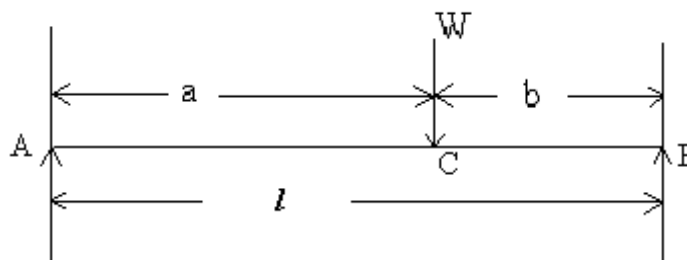

Figure 8
3. Find the central deflection of a simply supported beam shown in figure 8 by unit load method and loaded at a point distant 'a' from A and 'b' from B. [16]